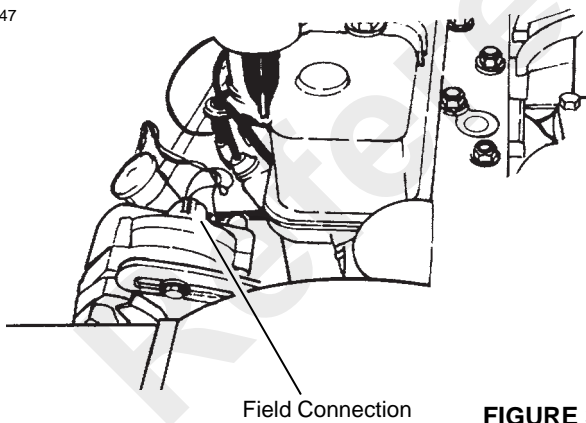

FIGURE 3-28
5. Disconnect the FIELD connection from the alternator (Figure 3-28). The connection is generally marked with an "F".